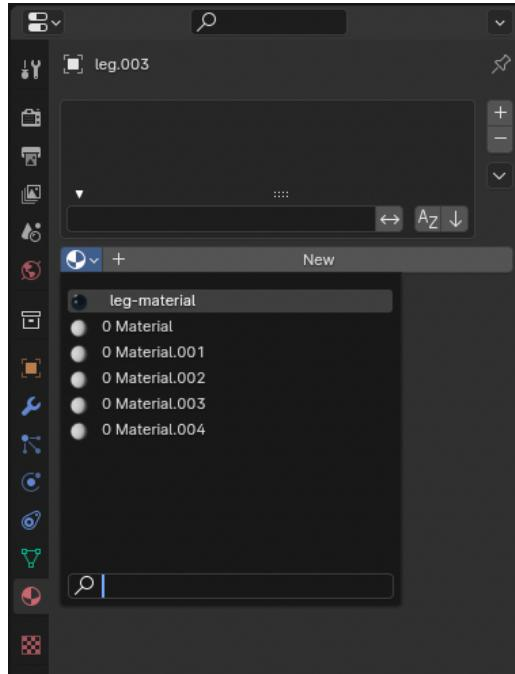

Figure 1.14: Using the same material for different objects.
20. Add the same *leg-material* to remaining legs (see Fig. 1.14).